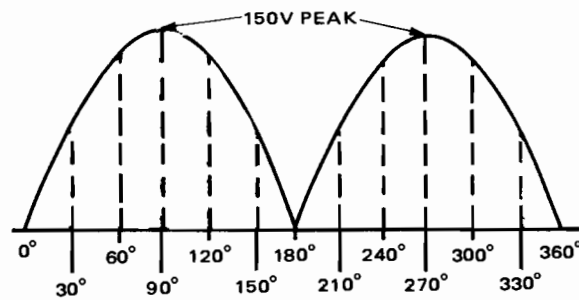

Fig. 7-4-2
11. A dc waveform taken from output of a generator could appear as the wave shown in Fig. 7-4-2. This wave changes value at a rate based upon rotational speed of armature. The term "fluctuating dc" usually is used to describe this type of wave.